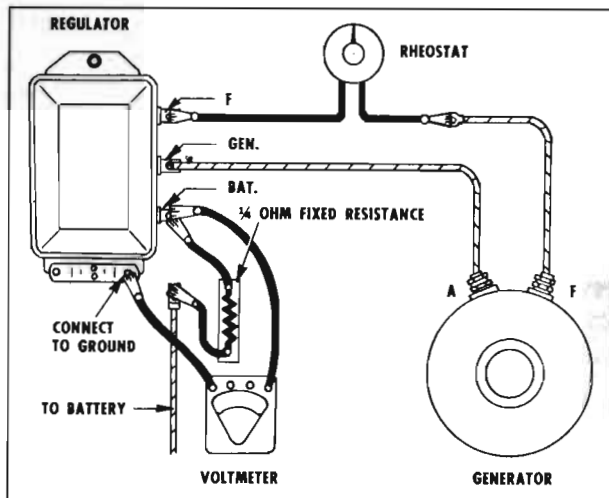

Figure 10-17—Testing Voltage Regulator
8. **Voltage Regulator Test.** Turn rheostat variable resistance to "OPEN" position and change one rheostat lead from ground to "F" terminal of regulator. Connect a $\frac{1}{4}$ ohm resistor (approximately 25 watts) into charging circuit at "Bat" terminal of regulator. See Figure 10-17.